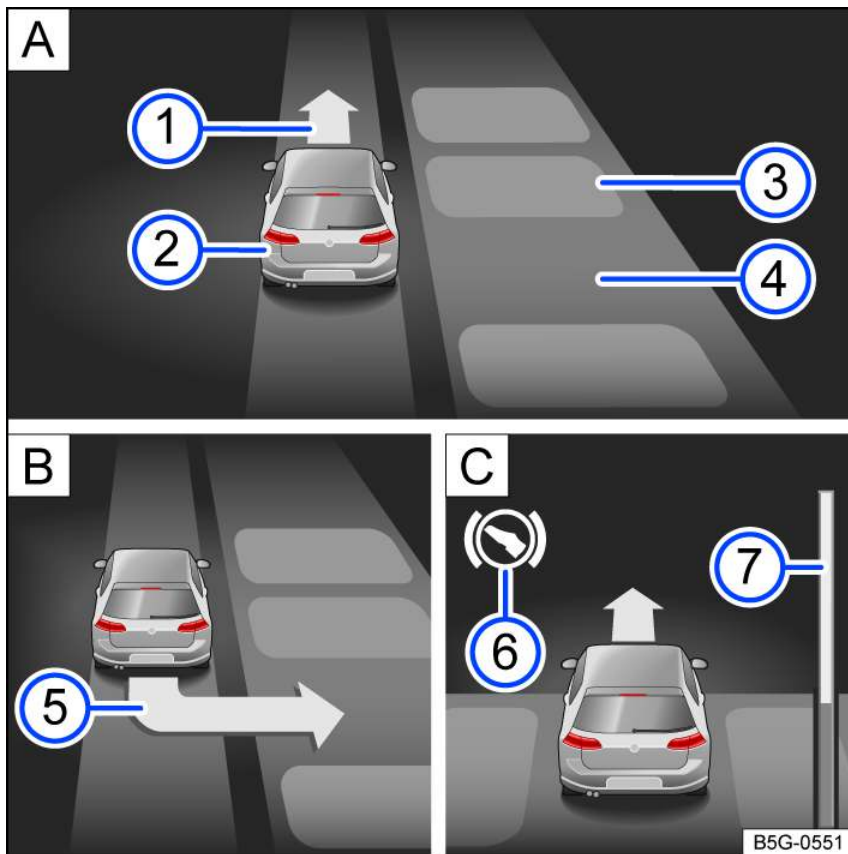

Fig. 110 In the instrument cluster display: parking perpendicular to the road.
- ① Prompt to drive forward.
- ② Your vehicle.
- ③ Parking vehicle or obstacle.
- ④ Detected parking space.
- ⑤ Request to drive backwards.
- ⑥ Request to brake.
- ⑦ Progress bar (relative distance remaining).
2. Pay attention to the prompt for parking in the instrument cluster display fig. 110 ⑤.